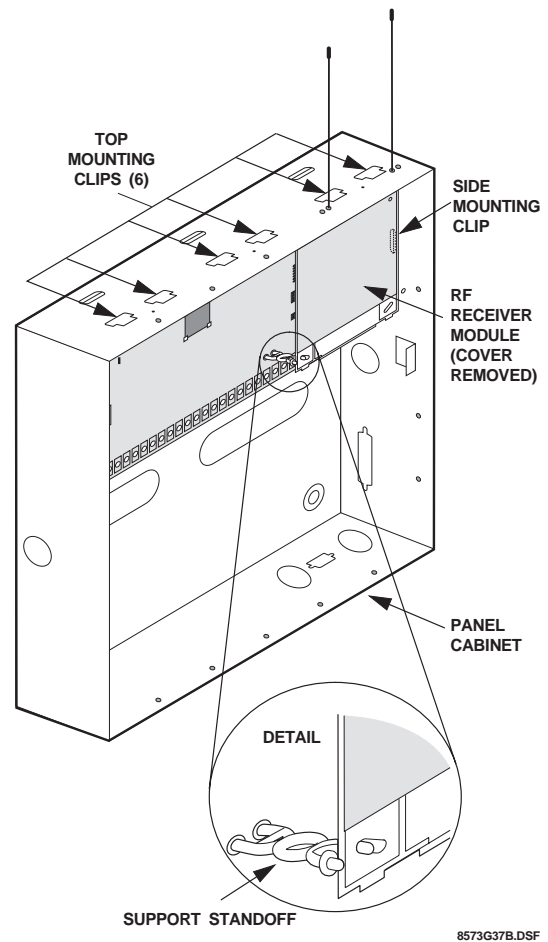

Figure 18. Mounting SuperBus Modules Inside the Cabinet (RF Receiver Shown)
- The cabinet has built-in mounting clips on the top and sides that module backplates slide onto for mounting (see Figure 18).
- One SuperBus RF Receiver can be installed inside the cabinet, but it must be mounted on the right-hand side to accommodate the antennas (see Figure 18). Additional receivers must be installed outside the cabinet.